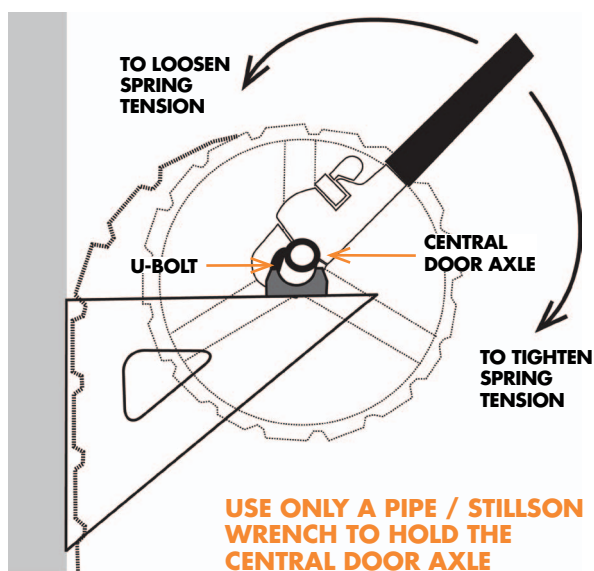

FIG.7 LEFT HAND SIDE FROM INSIDE LOOKING OUT
6. Rotate the central axle approximately a quarter turn (See Fig.7 over page):